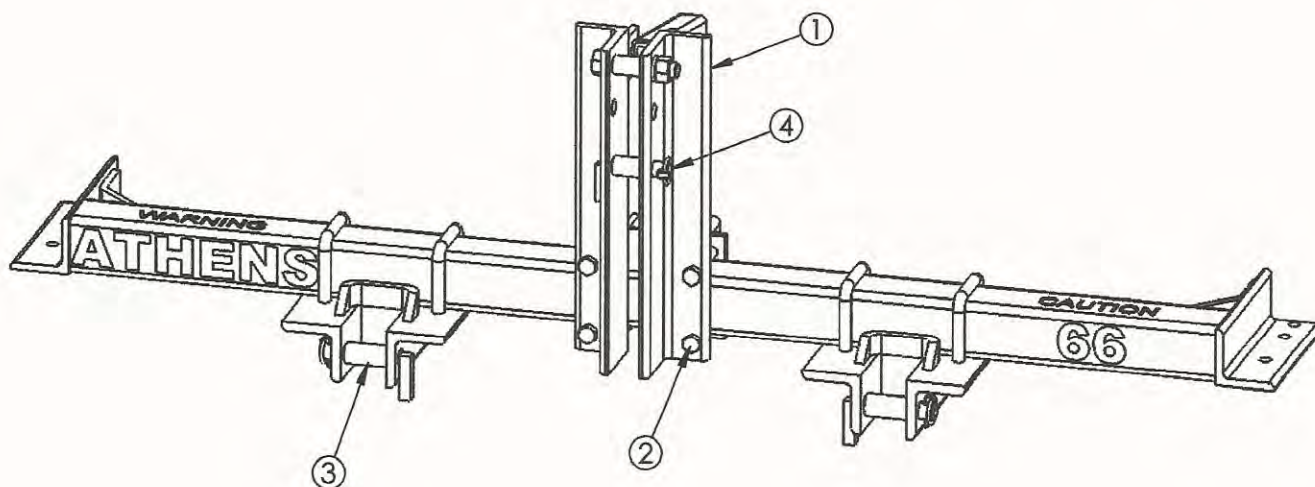

Figure 2
A) To Assemble the Hitch to the Main Frame (Refer to Figures 2 - 4)